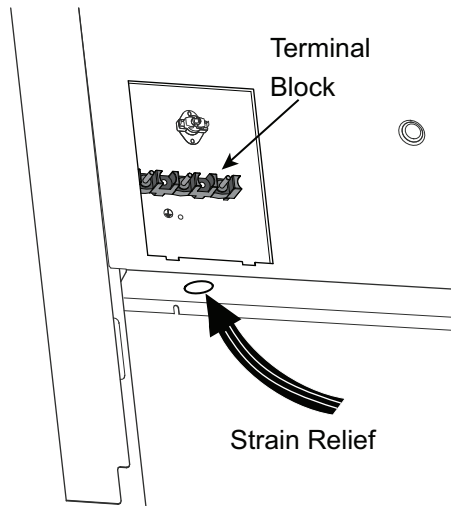

Figure 10: Strain Relief Location
Locate the terminal block on the rear of the unit and remove cover (refer to *Figure 10*). The conduit must be installed to the terminal block using an approved conduit connector. The free end of the conduit must be connected to a terminal block provided in the electrical supply zone, as shown in *Figure 4 on page 8*.
Mount a strain relief (not provided) into the 1" (25.4 mm) diameter hole located below the terminal block (see *Figure 10*). Wiring for the unit is to be brought into the terminal block through the conduit and through the strain relief. The ends of the wiring must have 1/4" (6 mm) faston closed-loop lugs attached, preferably soldered in place. Make the connections to the terminal block provided.
1. Locate the terminal block on the rear of the unit and remove cover (see *Figure 10*).